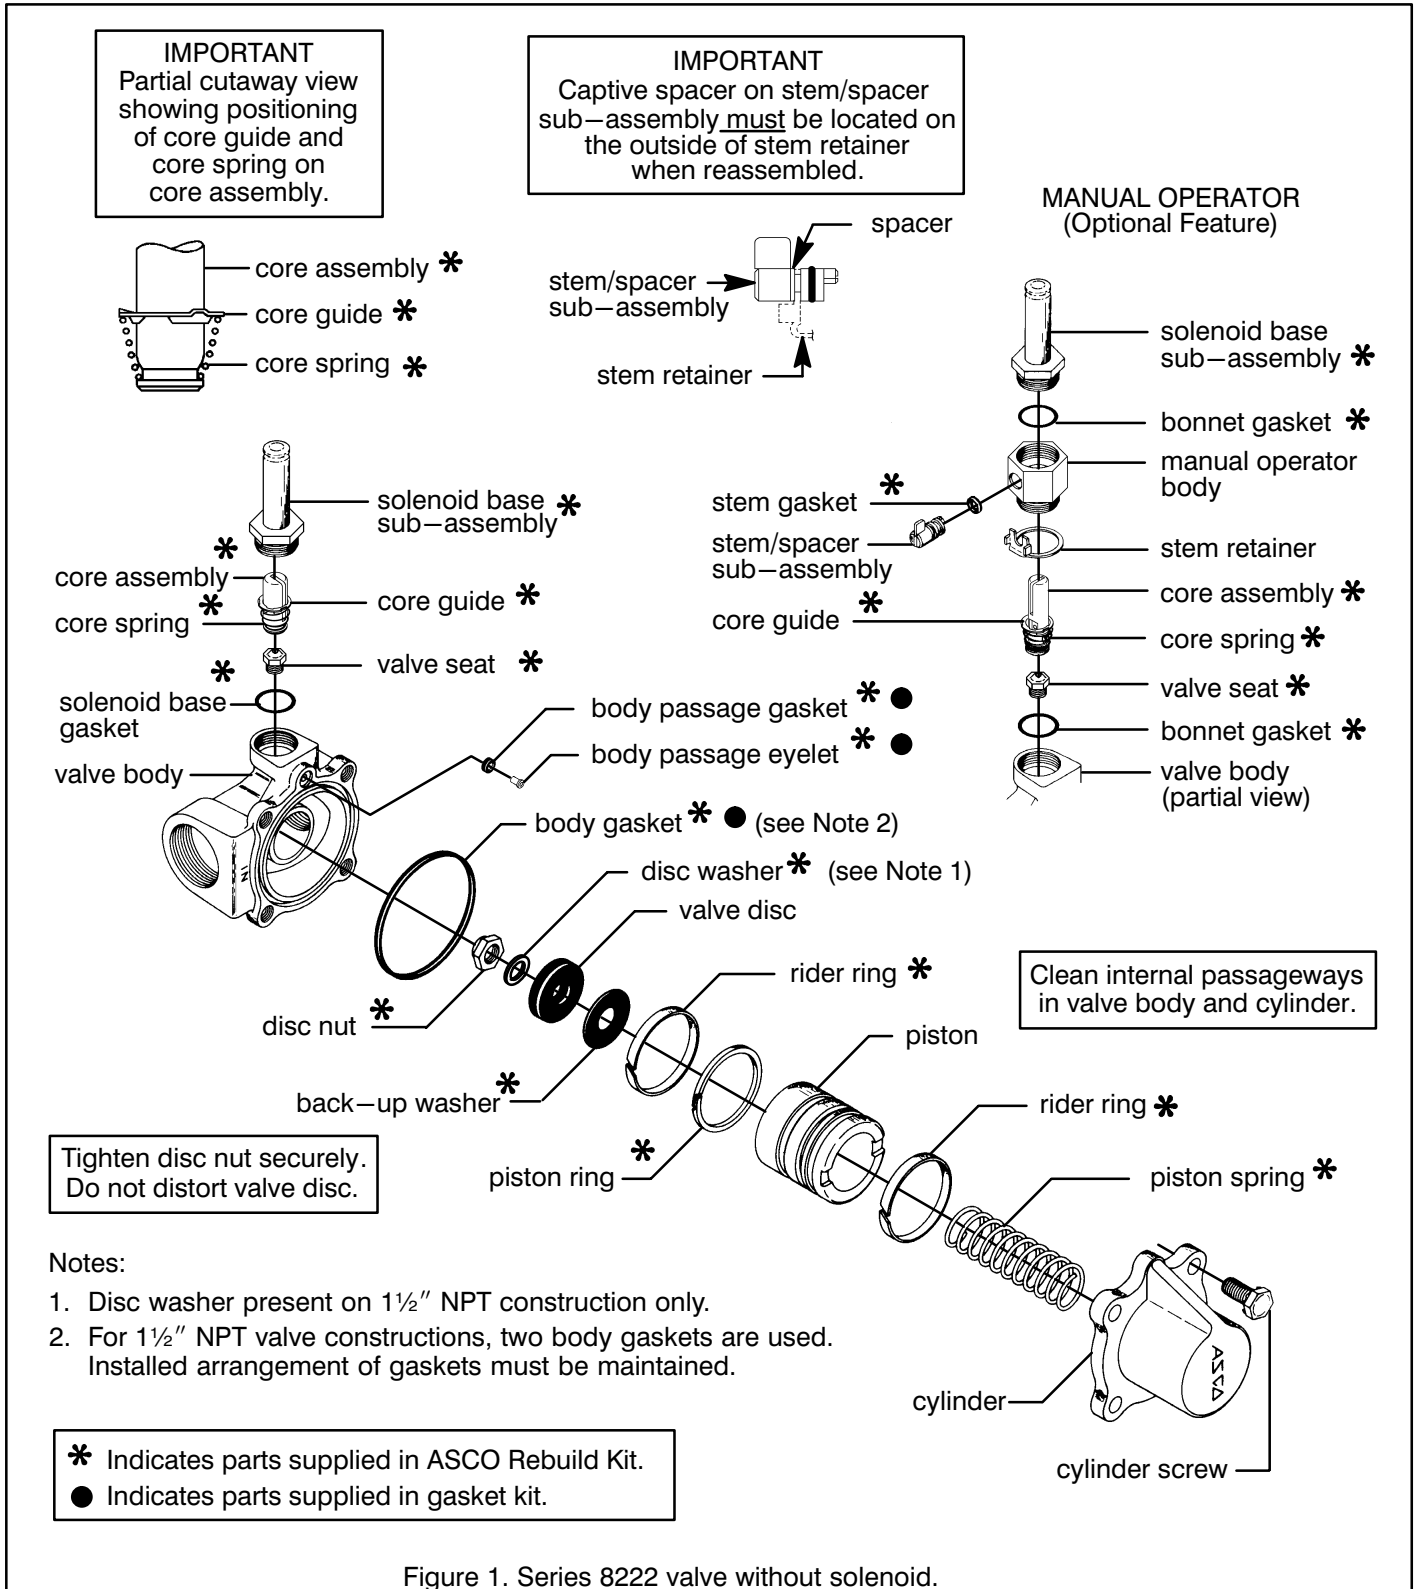

Figure 1. Series 8222 valve without solenoid.
- Install stem retainer on base of manual operator body and engage with stem/spacer sub-assembly. Be sure the captive spacer (see Figure 1 on page 4) on the stem/sub-assembly is located on the *outside* of the stem retainer.